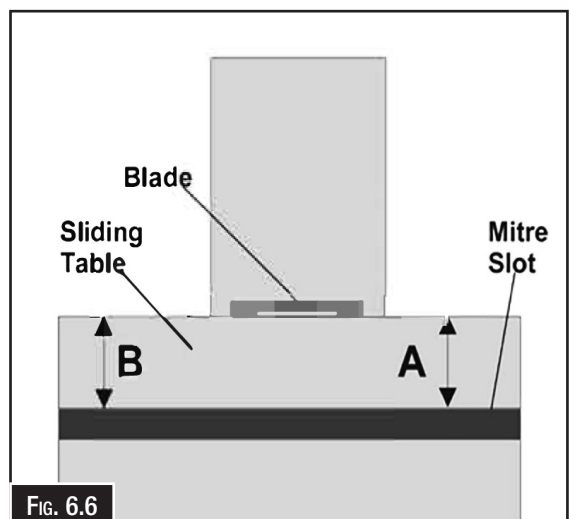

FIG. 6.6
5. Move the sliding panel all the way to one end, and using a precision ruler, measure the gap between the edge of the panel and your mark on the blade as shown in Fig. 6.6.